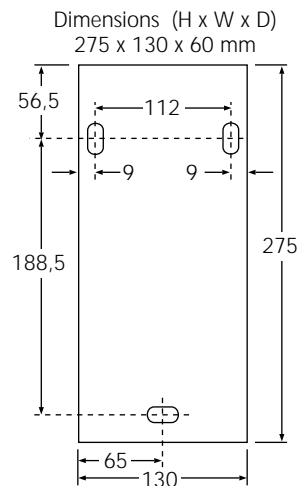

Figure 3. Mounting dimensions
- 1 Remove upper and lower covers. The lower rectangular covers are used to fasten units to each other (1).
- 2 Fasten the module with three screws; see figure 3 on page 4.